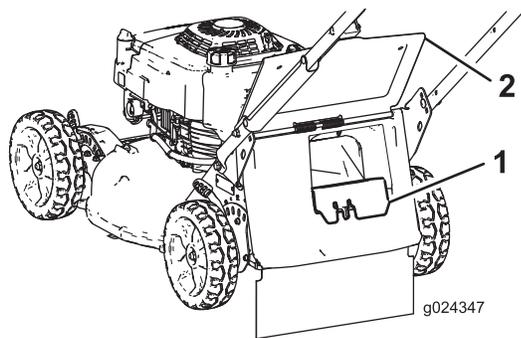

Figure 17
- If the rear-discharge plug is not installed, grip it by the handle, raise the rear door, and insert it into the rear-discharge chute until the latch locks into place (Figure 17).
3. Remove the rear-discharge plug by pushing in the latch with your thumb and pulling the plug out from the machine (Figure 17).